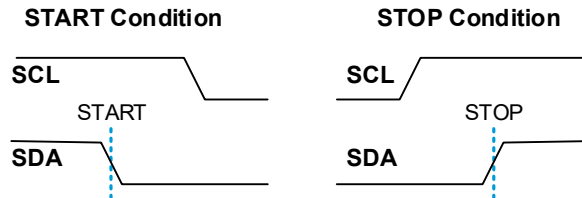

Figure 15. START and STOP Condition Waveform
The sensor transmission is initiated when the master sends a 0 START bit (S). The transmission is terminated when the master sends a 1 STOP bit (P). These bits are only transmitted while the SCL line is HIGH (see Figure 15 for waveforms).